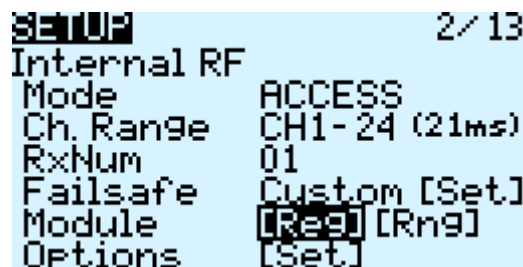

Figure 42: Internal RF
5. Using the ENT knob, scroll down to INTERNAL RF. (Figure 42)